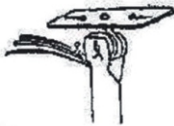

Figure 4
2. Make sure the cylinder is in the correct position and, for example, that there are no metal part contacts, as shown in Figure 4.